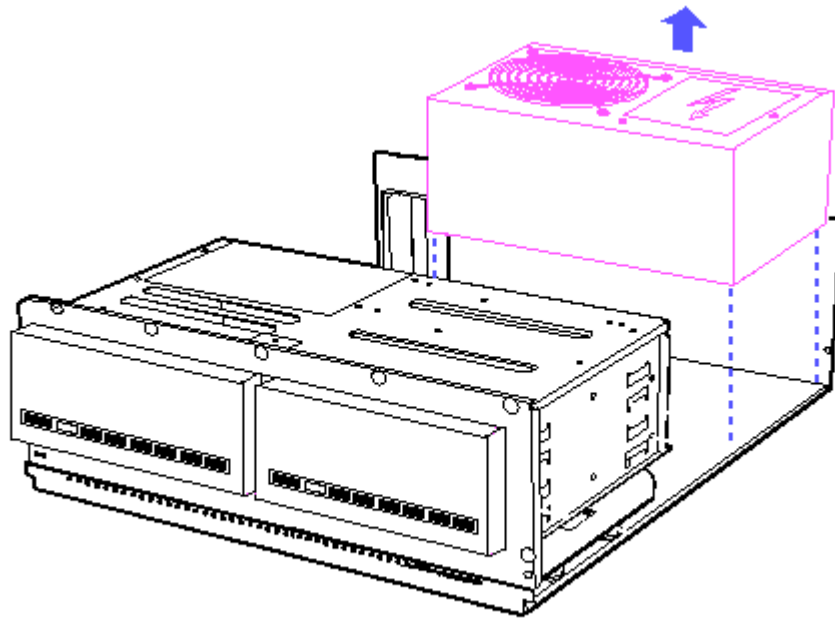

Figure 8-112. Removing the Power Supply Assembly
3. Slide the power supply assembly 1/2 inch to 1 inch (1.27 to 2.54 cm) toward the fixed disk drive housing (Figure 8-112). Be sure to clear the tabs on the bottom chassis. These tabs hold the power supply assembly in place.